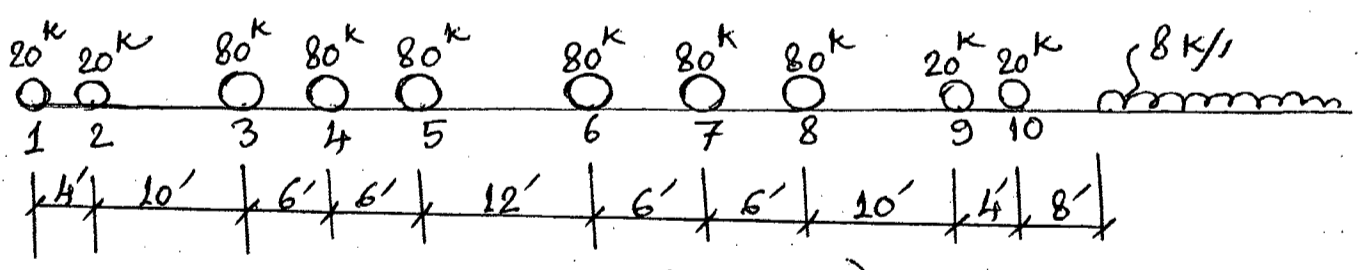

Fig. 13 (Q.no.14)
14. Due to the wheel loading shown in Fig. 13, calculate the maximum moment at a distance 20 ft from left support of a simply supported beam of 80 ft span. (28)